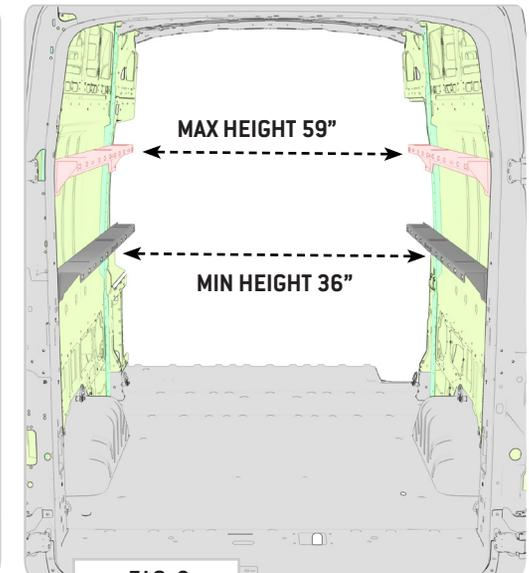

FIG 6
**NOTE** - The width range for rail install is roughly **63-67.75"** measured wall-to-wall. This translates to a height range of roughly **63-67.75"** from the floor (**FIG 6**).